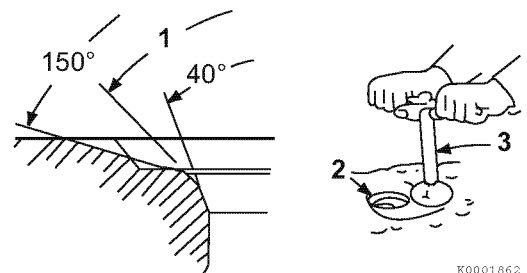

Figure 6-61
Light cutting can be performed by the use of a hand-operated cutter (Figure 6-61).
Valve seat diameter can be adjusted by top-grinding with a 150° stone to make the seat diameter smaller, and bottom-grinding using a 40° stone to make the seat diameter larger. Once the seat location has been corrected, grind and lap the seat angle (Figure 6-61, (1)) to specification. See *Cylinder Head* on page 6-4 for specifications.